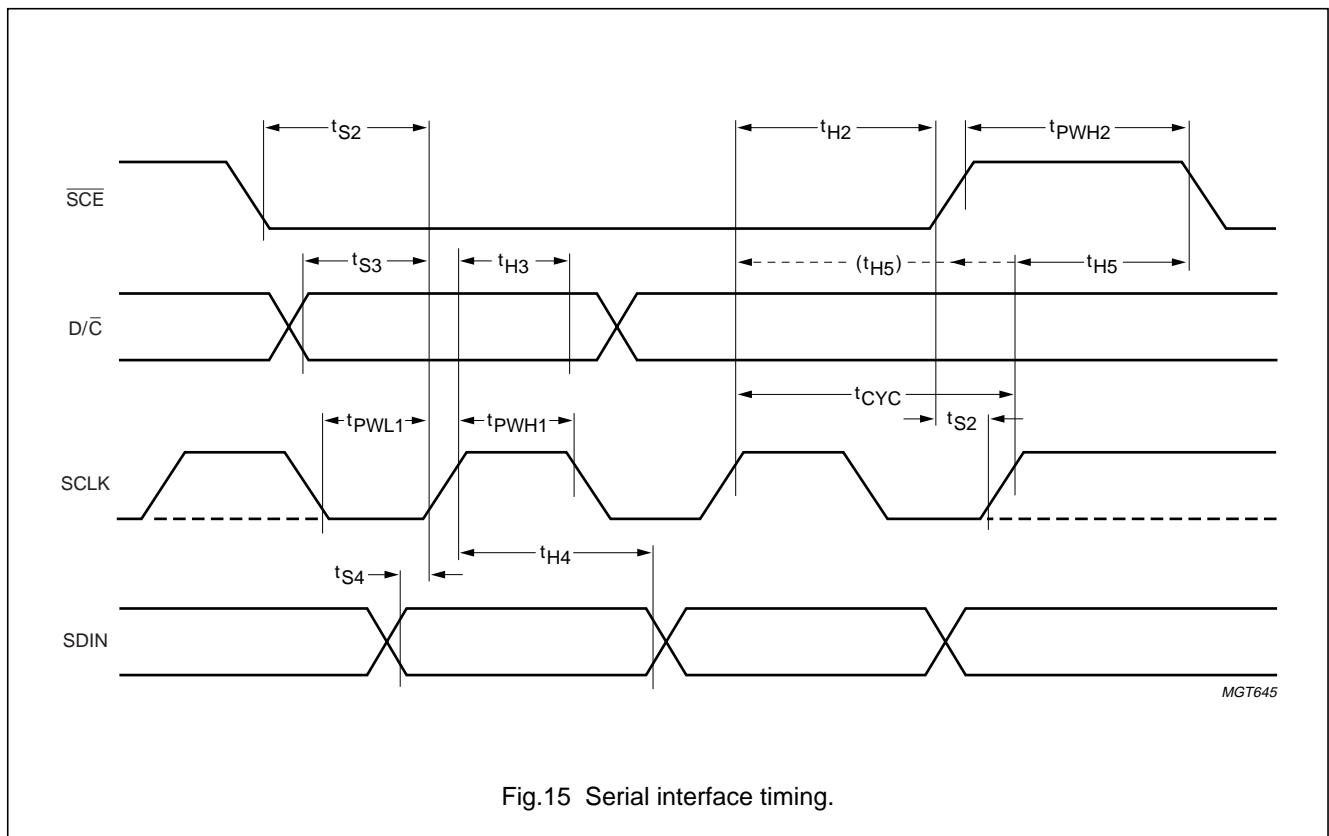

Fig.15 Serial interface timing.
2. tH5 is the time from the previous SCLK positive edge (irrespective of the state of SCE) to the negative edge of SCE (see Fig.15).